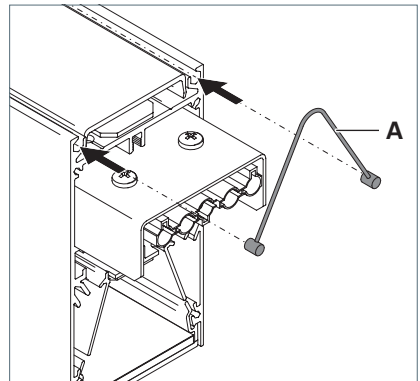

Fig. 17: Hanging wire rope into luminaire.
- ▶ Insert the ends of the wire rope **A** into the guides on the top of the luminaire, see Fig. 17.